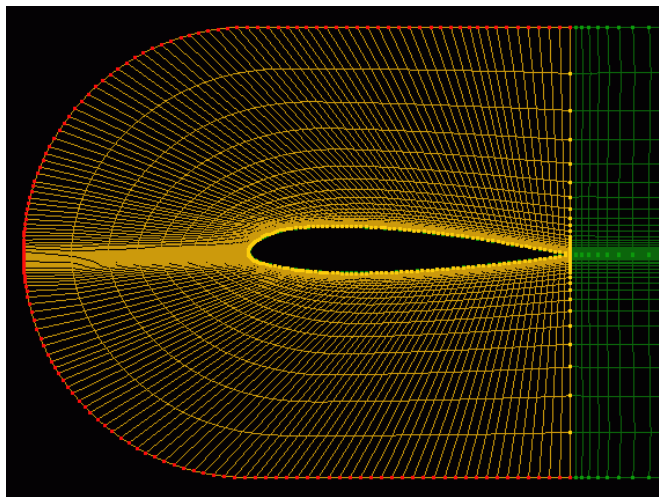

Figure 15. Block “near\_field\_001” with JMAX (outer) edge selected.
- Select the outer edge of this block as the current subcurve. There are two ways to do this. One is to select **Block→Next Edge** or <Ctrl>E multiple times until the desired edge is highlighted. The other way is to use **Boundary→Choose Subcurve** to select all the points on that edge. You may find this somewhat tricky, because if you click on a corner point, there are two edges it can choose from and the wrong one might be selected. One easy way to avoid this problem is to use the mouse to select a point on that edge that is close to the corner, and then use the arrow keys on the keyboard to extend the subcurve to the corner point. When you are done, the graphic window should look like Figure 15.